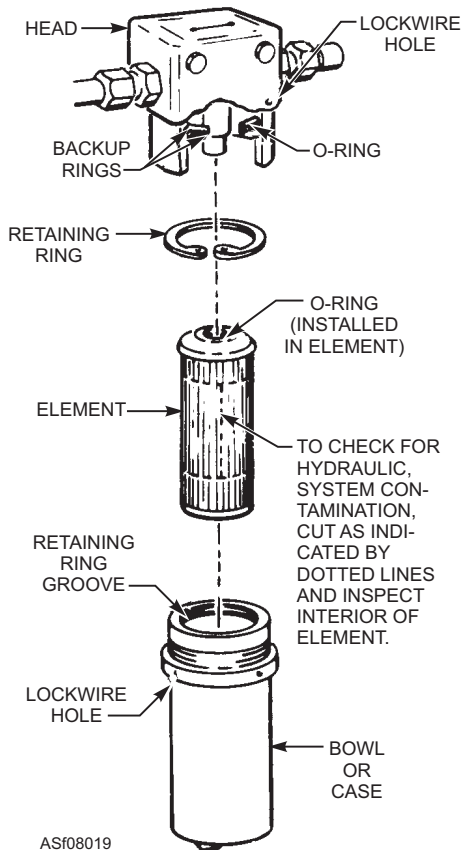

Figure 8-19.—T-type micronic filter assembly.
There are many types of filters, but most filter assemblies used in aircraft and support equipment are of the T-type shown in figure 8-19. The T-type filter assembly is composed of three basic units: a head assembly, a bowl, and a filter element. The head assembly is the part that is attached to the structure and connecting lines.
4. The filter element shown in figure 8-19 is removed from the case by extracting the retaining ring and removing the filter element.